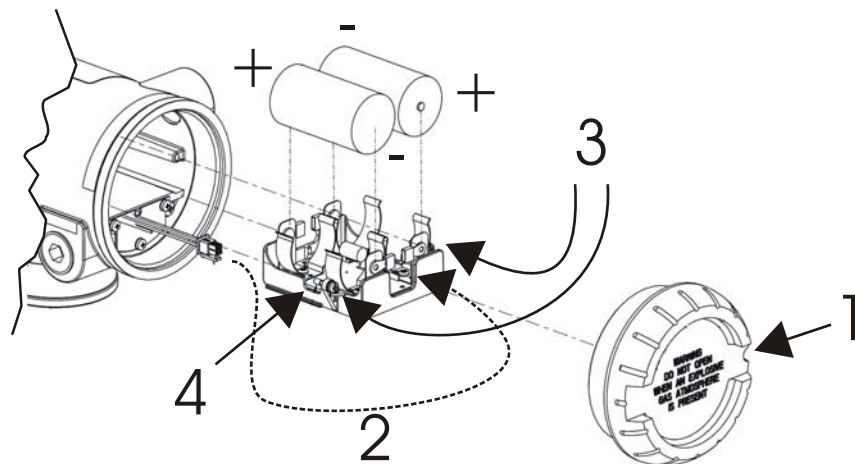

Figure 10 Battery replacement
1	Loosen the M3 locking set screw on the battery end-cap (opposite end from display). See item 1 in Figure 10. Unscrew and remove the end cap.
2	Using thumb and forefinger, squeeze the battery connector at top and bottom to disengage the locking mechanism, then pull to disconnect. See item 2 in Figure 10.
| 3    | Loosen the two battery holder retaining screws (closest to the batteries). See item 3 in Figure 10. The screws are captive.   |
| 5    | Remove the old batteries from the battery holder. If needed, pry out the batteries by using a slotted screwdriver as a lever in the holder's side slots. See item 4 in Figure 10.   |